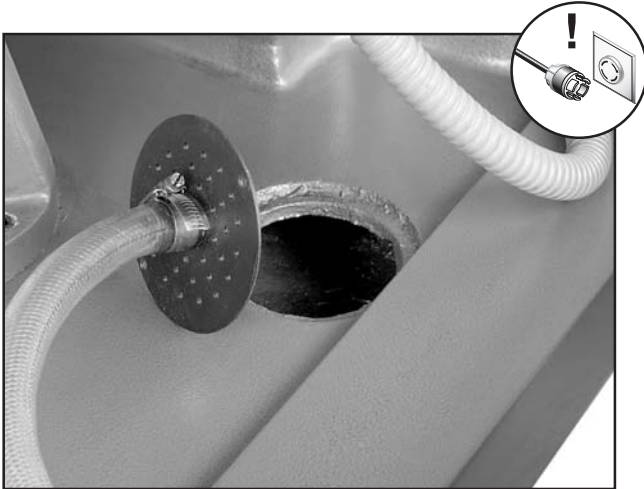

Figure 81. Coolant drain screen found inside the bottom splash pan.
- Remove the coolant drain screen and inspect how far the coolant is from the top of the tank (see **Figure 81**).